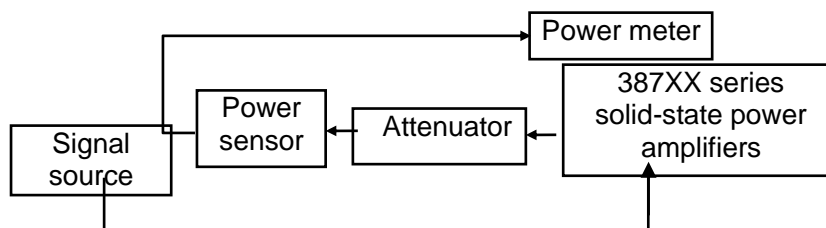

Figure 5-2 Diagram for testing of max. output power, max. input power and output power flatness
The specific operation steps for testing the following indicators are provided according to the testing instrument shown in the figure. When other testing instruments with the same performance characteristics are used for testing, please refer to the User's Manual of such instruments for the specific operation. A signal source and a power meter as shown in Figure 5-2 can also be used to test the gain.
- 1) Max. output power test: connect the instrument as shown in Figure 5-2, set the working frequency range of the signal source to 32GHz~40GHz with the stepping by 0.5GHz, set the output power of
Connect the instrument as shown in Figure 5-2, set the working frequency range of the signal source to 32GHz~40GHz with the stepping by 0.5GHz, set the output power of the signal source connected to the input port of the amplifier to -30dBm or any other value that can make the amplifier in the working state of linear amplification, increase the output power of the signal source, record the reading on the power meter when the gain is compressed by 1dB, then calculate the sum of this value and the attenuation value on the attenuator, which is just the output power of the 1dB compression point.